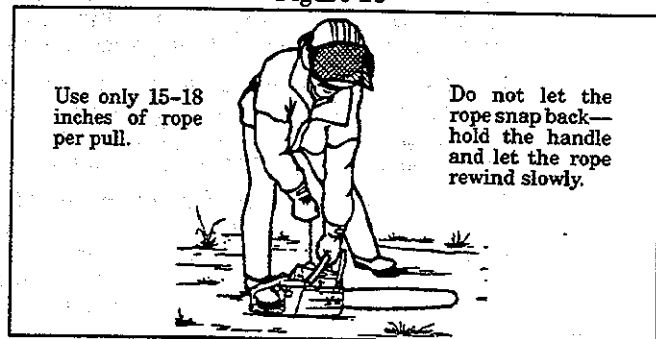

Figure 14
- d. Pull the starter rope until the saw attempts to run. Figure 14.